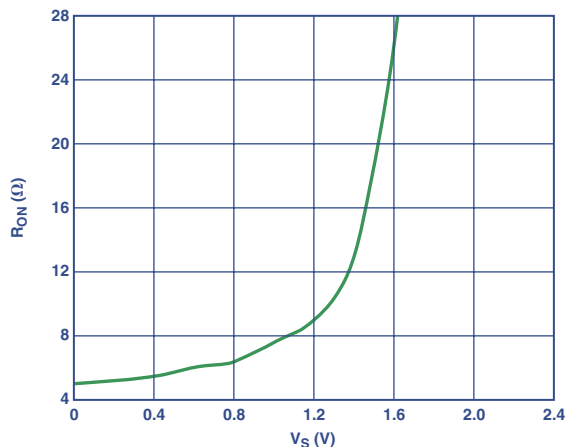

Figure 4. On resistance vs. source voltage.
**A:** Signal loss is essentially determined by the attenuation introduced by switch resistance in the *on* condition,  $R_{on}$ , in series with the source-plus-load resistance—measured at the lower frequencies of operation. Figure 4 shows a typical profile of *on-resistance* as a function of source voltage for an N-channel MOSFET device.